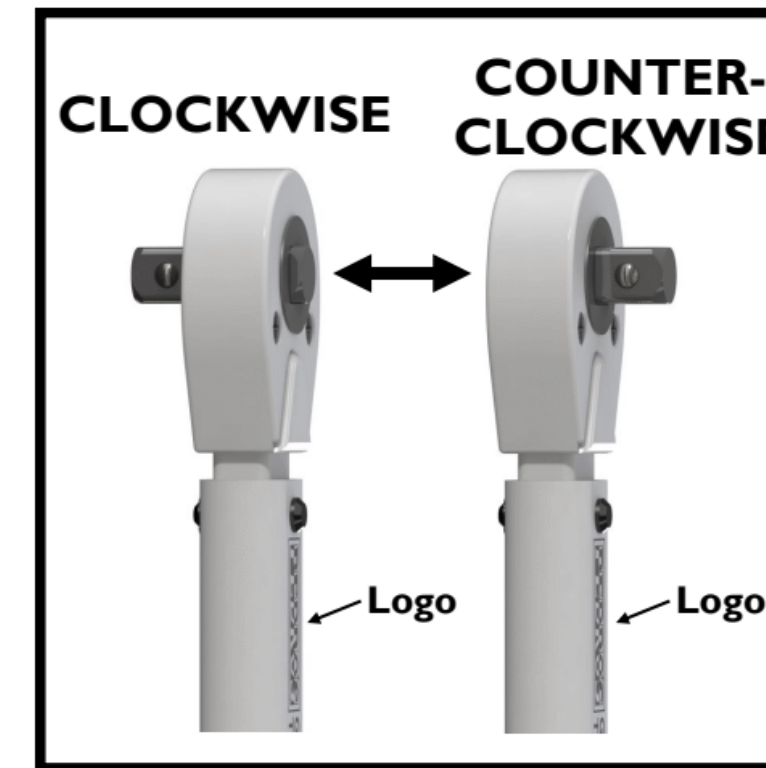

FIGURE 4
7. Tighten fastener to desired torque by smoothly applying pressure to the torque wrench handle. Do not apply force to any other part of the wrench. When the torque is reached, the head of the wrench will partially break free and the rest of the wrench will pivot as shown in Figure 4. Stop apply pressure. **Do not continue applying force after desired torque is reached. This may cause damage to the fastener, component, or wrench.**